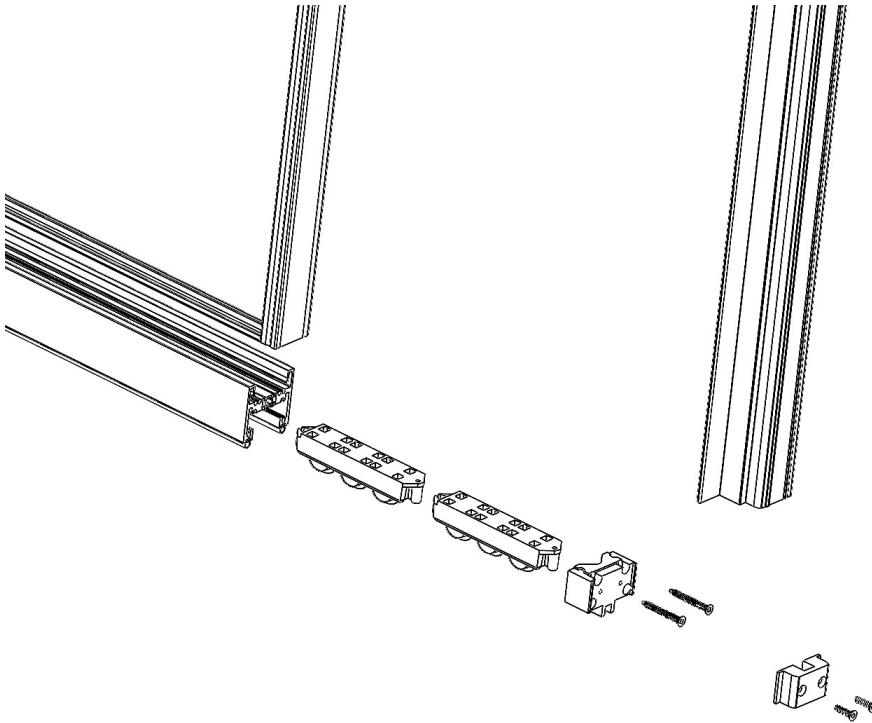

Figure 12
5. Determine the number of roller assemblies needed per panel and connect by sliding one (1) roller assembly onto the other. Continue this process for all required rollers. Once complete, slide the end sweep onto the roller assembly and set roller assemblies in front of panel.
6. Taking care not to scratch or shift the lead panel over. With a pry bar, lift the panel high enough to slide the roller assembly system into place. Ensure that all rollers rest onto the track cap and roll freely. (See Figure 12).